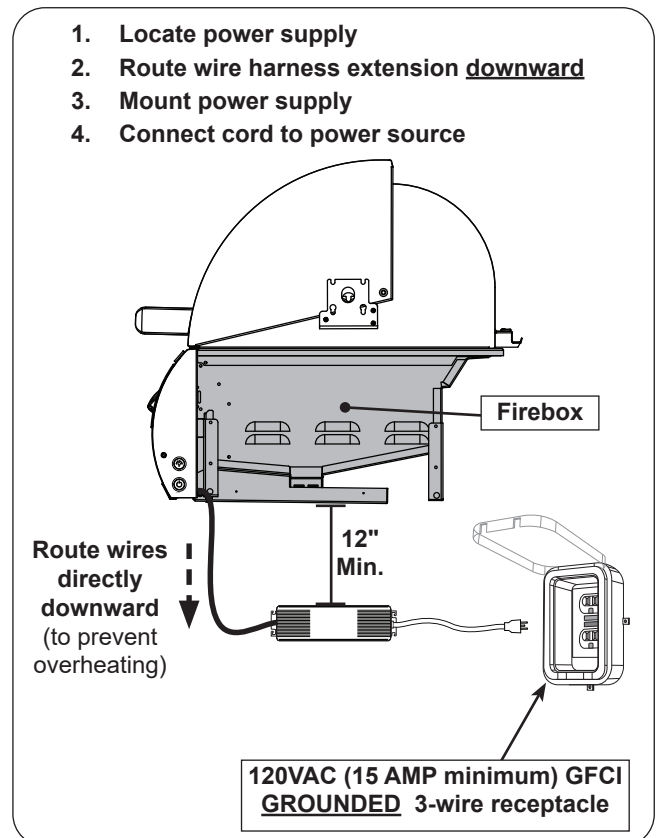

Fig. 30-3 Electrical installation
1. Route the power supply below the control panel and directly downward. This will prevent overheating. **DO NOT** route the harness below the unit firebox. See Fig. 30-3.
- located at least **12"** below the bottom of the unit (see Fig. 30-3)
3. Connect the power cord to a **120VAC (15AMP minimum) GFCI GROUNDED three-wire receptacle** (see Fig. 30-3). The GFCI receptacle must be a WEATHER-PROOF IN-USE COVERED RECEPTACLE.